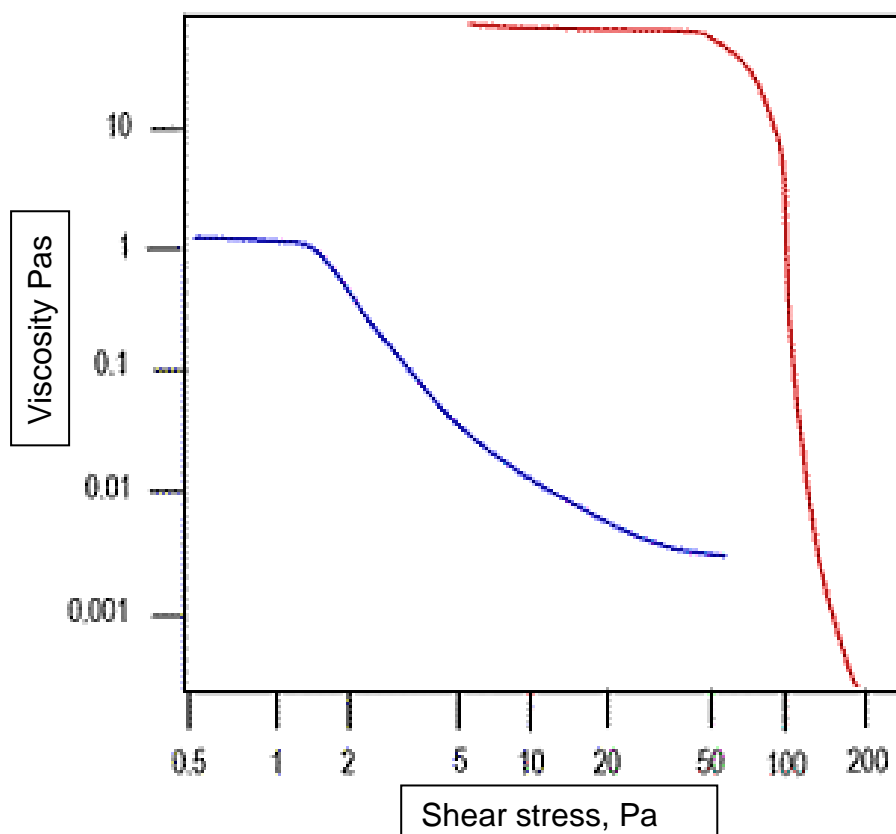

Figure 1. Stress Viscometry of non drip gloss paint (red curve) and a free flowing gloss finish paint (blue curve)
b) Figure 1 shows the curves for two paints - a non-drip gloss and a gloss finish which have been analysed using stress viscometry.